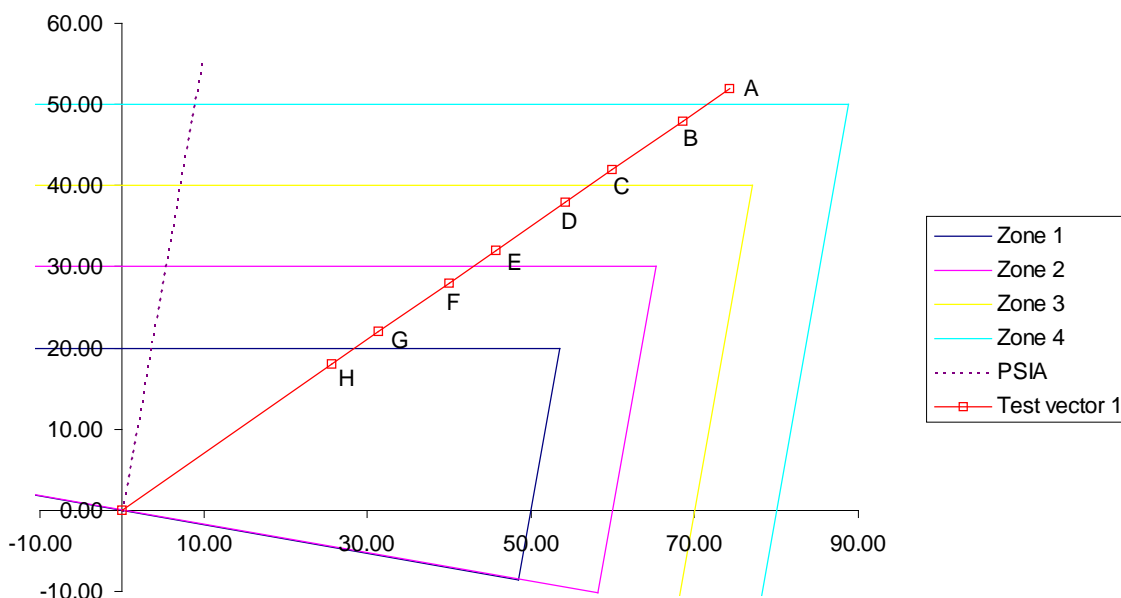

Figure 4. Test points to be applied to relay
- Apply an initial impedance to the relay outside all zones (point A on figure 4) by setting the voltage on the DVS3 to an appropriate value. This point is always on the angle of the test vector, and placed outside the outermost zone of operation.
- Apply the test impedance (for example point B on figure 4) by entering the new voltage on the test vector using the keypad on the DVS3. The relay will trip in the time appropriate for the zone, and the trip time will be displayed on the DVS3.